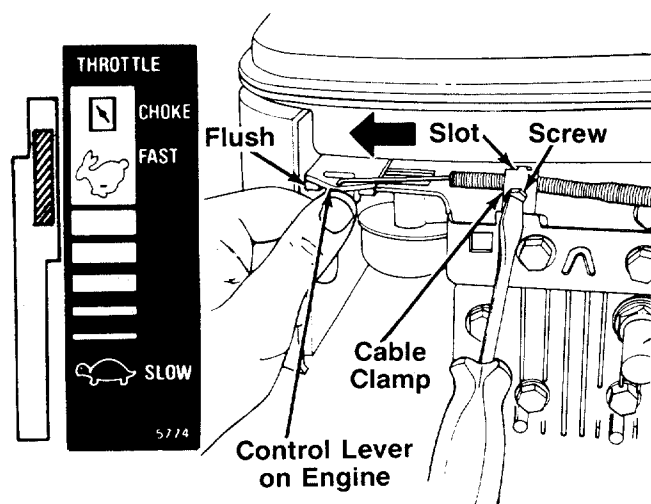

FIGURE 5.
1. Push the throttle control lever on the handle all the way forward to **CHOKE**, then back it off **two "clicks"** (approximately 5/16"). See figure 5.
2. The throttle control cable is attached to the upper handle. Route the throttle control cable under the lower handle and to the outside of the handle mounting bracket and catcher panel. Hook the "Z" end of the throttle control cable into the hole in the control lever on the engine. See figure 5.
3. Using a 5/16" wrench or nutdriver, remove the screw on the cable clamp shown in figure 5. Slip the control cable under the clamp. Replace the screw (cable should be above the screw), but do not tighten screw (cable must still move freely beneath the clamp). Make certain the tab on the cable clamp is seated into the slot on the engine.
4. Push the control lever on the engine as far toward the **outside** of the engine as it will go. The edge of the control lever should be flush with the bracket on the engine. See figure 5. Hold the control lever in this position as you tighten the screw on the cable clamp to secure the throttle cable.